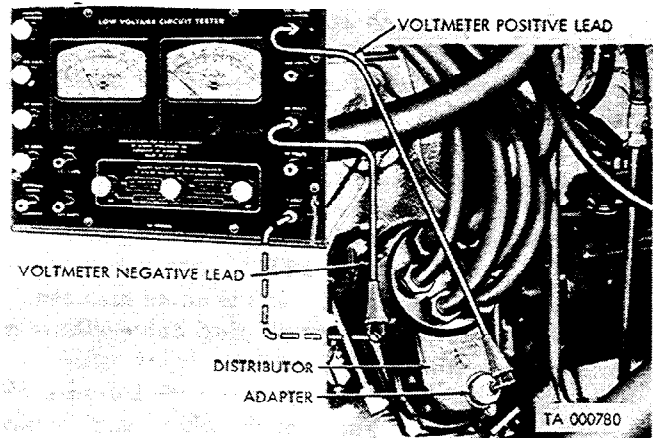

Figure 2-13. Checking resistance through breaker points.
(7) *Check ignition switch.* If voltage reading exceeds 0.2 volt, check for loose or corroded connections at the starter switch terminal, ignition switch, and the cable connector at the left splash shield or at the filter on the dash (vehicles so equipped). If the connections are clean and tight, eliminate the switch from the circuit and repeat the test. To do this, remove the instrument cluster far enough to provide access to the ignition switch. Disconnect the two cables (11 and 12) at the cable connectors and connect cable (11) to cable (12). Start the engine and observe the voltage reading on the upper scale of the voltmeter. If voltage reading is satisfactory with the ignition switch by passed, replace the switch (para 2-25).
c. *Check Breaker Points Resistance (Fig. 2-13).* Breaker points resistance check is to determine whether excessive resistance exists through the breaker points because of oil, burning, or oxidation.